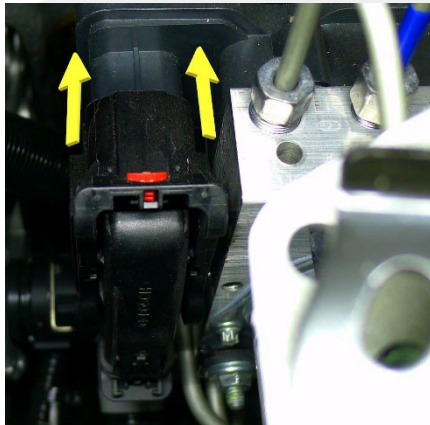
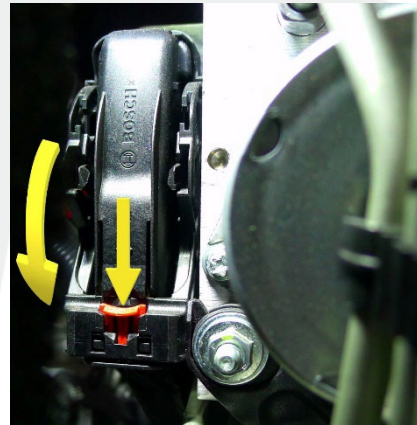

Figure 36
Figure 37
29. Attach connector X151 to the HCU (Figure 36), lower the lever, and then slide the red locking tab (Figure 37).